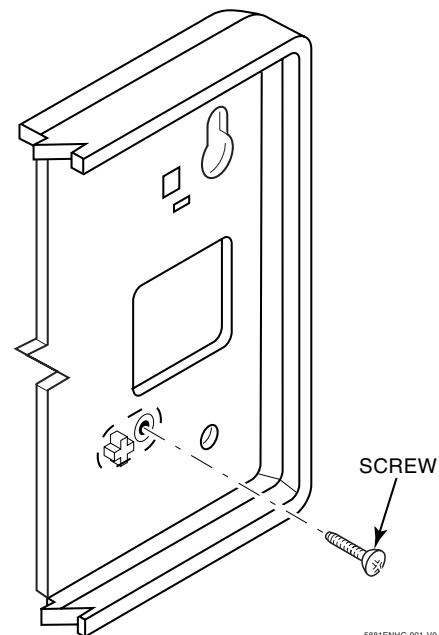

Figure 2: Tamper Protection
- c. If installing a 5881ENHC, install a flat-head screw (supplied) in the case tamper tab as shown in Figure 2. When the receiver is pried from the wall, the tamper tab will break off and remain on the wall. This will activate a tamper signal in the receiver and cause generation of a tamper signal. Note that this signal will also be generated when the receiver's front cover is removed.